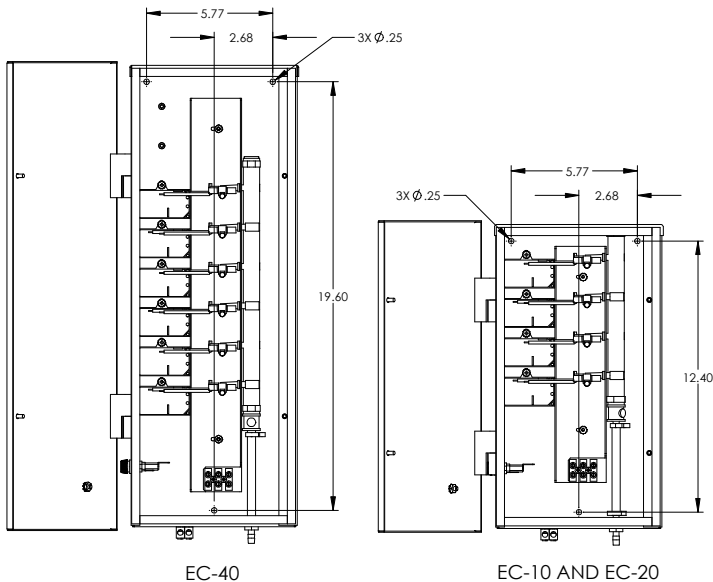

Figure 1: Mounting Hole Dimensions
- A pressure wire connector is provided on the outside of the unit, marked with to permit connection to a minimum No. 6 AWG (13.3 mm²) solid bonding conductor between this point and any metal equipment, metal enclosures of electrical equipment, metal water pipes, or conduit at least five (5) feet (1.5m) of the unit or as needed to comply with local requirements.
- Install at least 5 feet (1.5 meters) from wall of pool using nonmetallic tubing. Install ozone generator no less than one (1) foot above maximum water level to prevent water from contacting electrical equipment. Install in accordance with the installation instructions.
- The DEL Eclipse must be installed in an outdoor location, or indoors in a forced air ventilated room, and installed so that the orientation is exactly as shown in Figure 1. Install to provide water drainage of generator to protect electrical components.
1. Open the Enclosure Door and locate the three mounting holes on the back wall of the Enclosure. There will be two holes located near the top on the left and right and one located in the center near the bottom. Refer to Figure 1 for clarification.